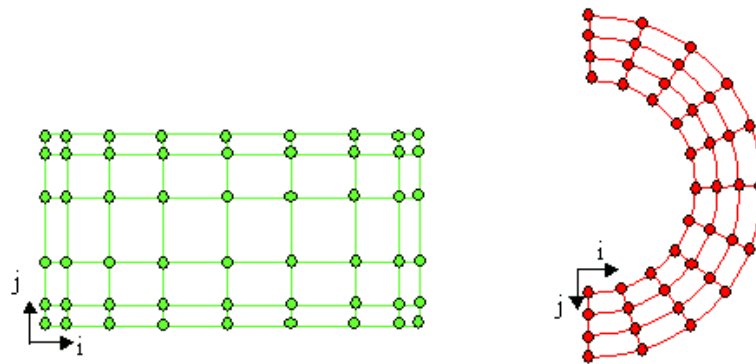

Figure A.8.2: Discretized Domain for FDM
- The domain is discretized into a series of grid points. A “structured” (ijk) mesh is required for FDM (Figure A.8.2).